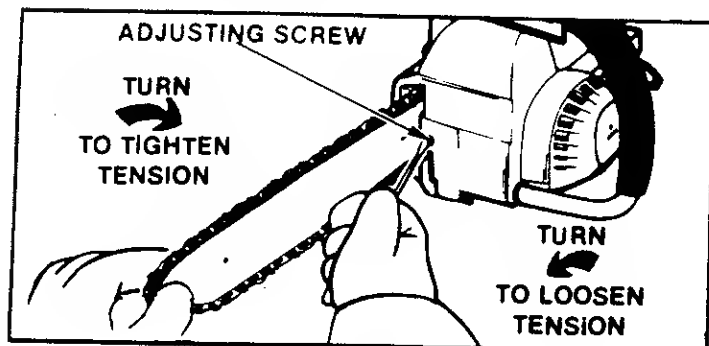

Figure 11
2. Turn the Adjusting Screw counterclockwise to move the Adjusting Screw almost as far as will go to the rear. Figure 11.
1. Hold the tip of the Guide Bar up and turn the Adjusting Screw clockwise just until the chain does not sag beneath the Guide Bar. Figure 11.